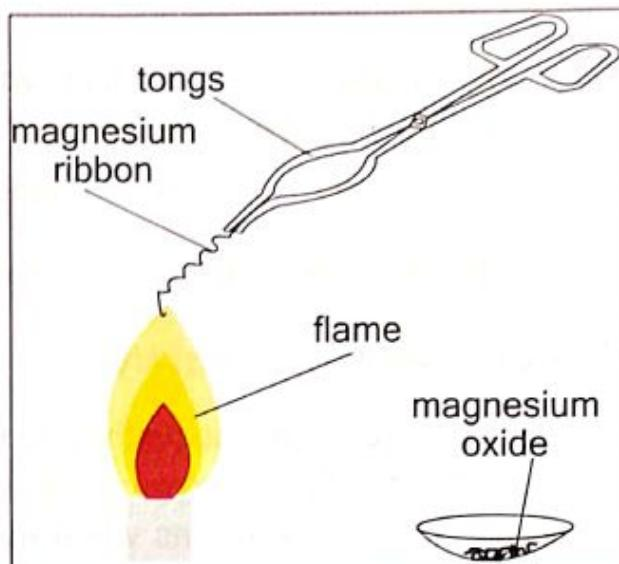

Fig. 1.2. Burning Magnesium in air
4. Hold the piece of magnesium with a pair of tongs as in Fig. 1.2.